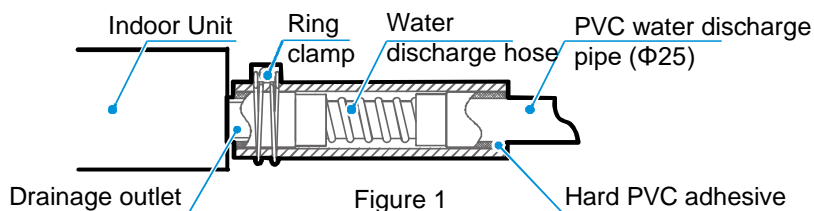

Figure 1
- In creating the air return plenum on the air inlet panel, make sure the air inlet grille is angled such that it is parallel to the direction of the air inlet. See Figure 1.
- Use the attached water discharge hose to connect to the drainage outlet and PVC piping of the indoor unit. Use the provided ring clamps to clasp tightly (see Figure 1).